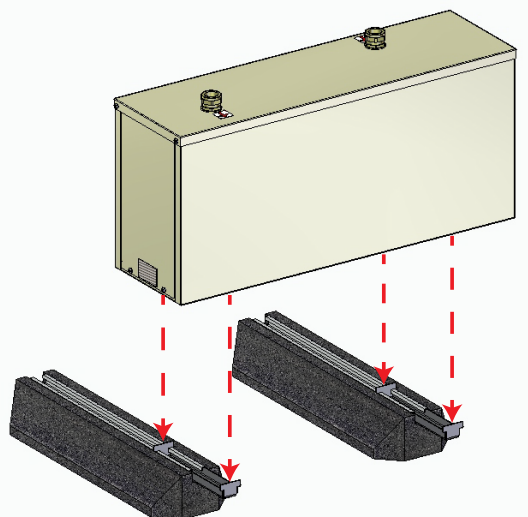

Figure 3-4: Locating volumiser on mounting brackets
3. Fit the external volumiser onto the AV mounts, ensuring that the flow and return connections are facing upwards and the removable cover is at the right-hand end of the volumiser when facing the heat pump from the front. Refer to Figure 3-4.